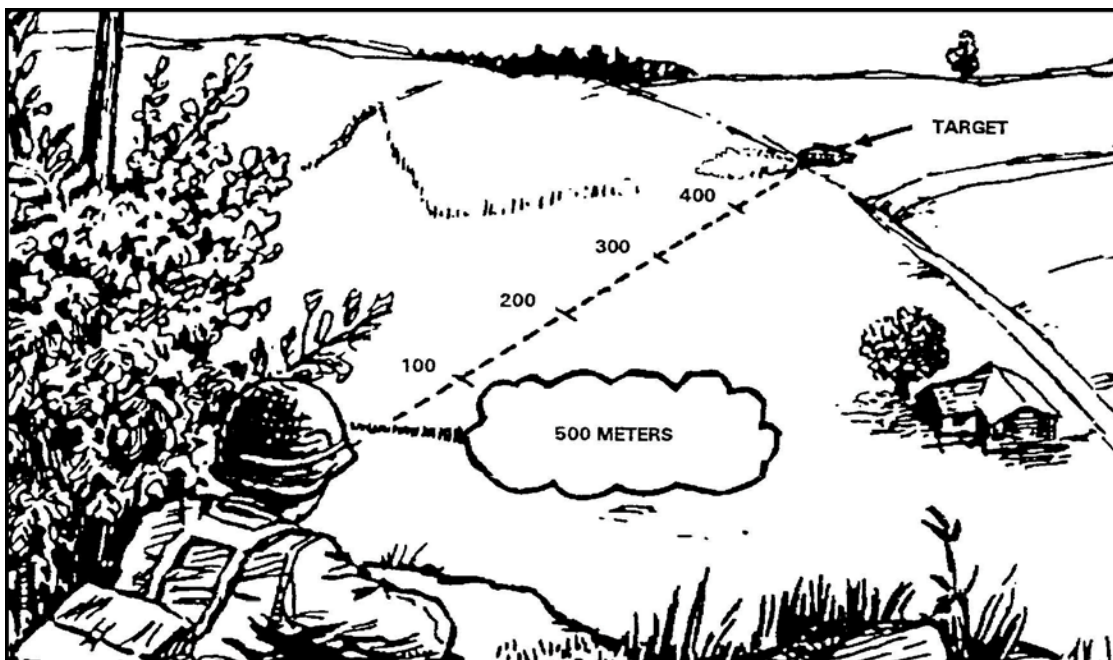

Figure 1. Range estimation.
3. Determine range to target (Figure 1).